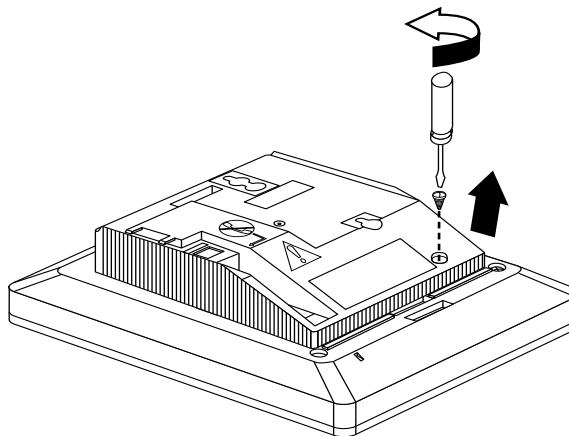
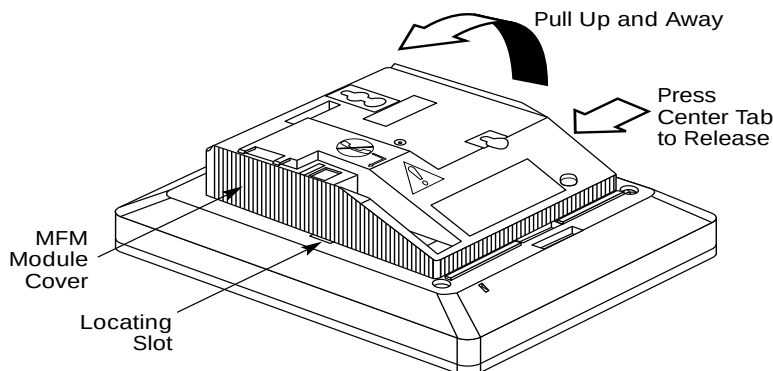
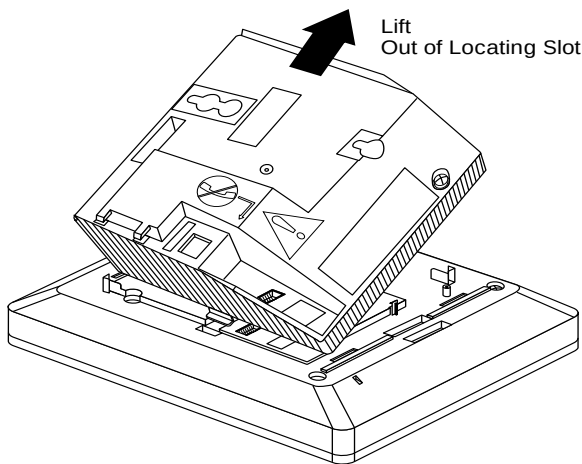

Figure 3-5. Releasing the Module Cover Screw
Figure 3-6. Releasing the Module Cover
Figure 3-7. Removing the Module Cover
- ▶ 3. Release and remove the module cover. See Figure 3-5, Figure 3-6, and Figure 3-7.